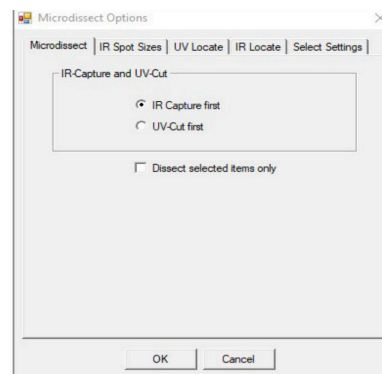

Figure 28
2. Select **IR Capture first** or **UV-Cut first** to set the order (see Figure 28)